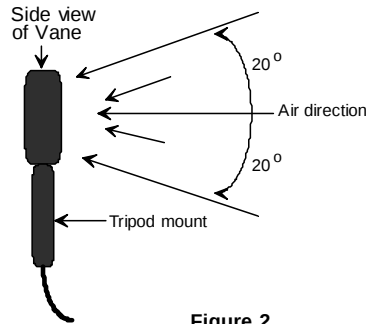

Figure 2
NOTE: For all air velocity or flow measurements, the air should pass through the vane from back to front. The rear of the vane can be found by locating the mounting nut. The front of the vane has the engraving "ANEMOMETER". For more accurate results, maintain a 20° axis of air direction with the rear of the vane (refer to Fig.2).
4. Place the vane in the air flow with the air direction matching the direction of the arrows printed on the inner walls of the vane. If the unit does not have the printed arrows, have the tripod mount side of the vane facing the air flow (see Fig.2).
5. Place the vane in the air flow (Fig.2).